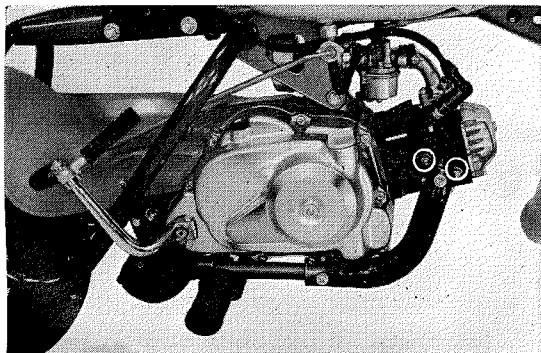

Fig. 19 Exhaust pipe & muffler removal
- 3) Unscrew two 6 mm nuts and two 6 mm bolts and then remove the exhaust pipe and muffler. (Fig. 19)